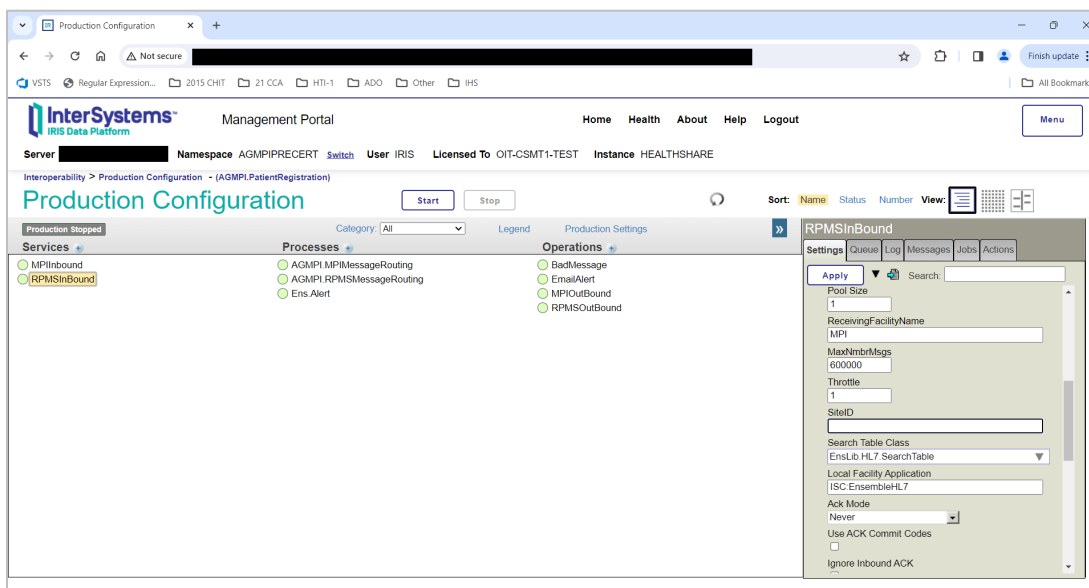

Figure 5-17: **Production Configuration**, RPMSInBound settings
1. Click **RPMSInBound** on the **Production Configuration** page to display the RPMSInBound configuration settings, as shown in Figure 5-17.